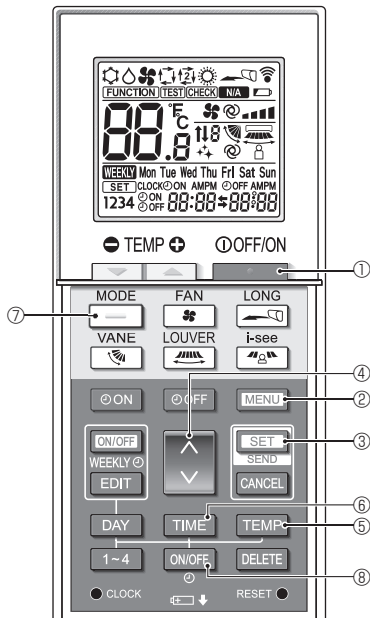

Fig. 6-10
1. Press the [] button ① to stop the air conditioner.
2. Press the [SET] button ③ in 5 seconds. Model setting screen will be displayed.
3. Press the [] button ⑦. Operation mode Ⓐ blinks. (Fig. 6-10)
4. Press the ⏴ button ④ to change setting No.
5. Check that setting No. "6" is displayed and only ⚙️🌀🌀 blink at operation mode Ⓐ, then press the [SET] button ③ in 5 seconds.